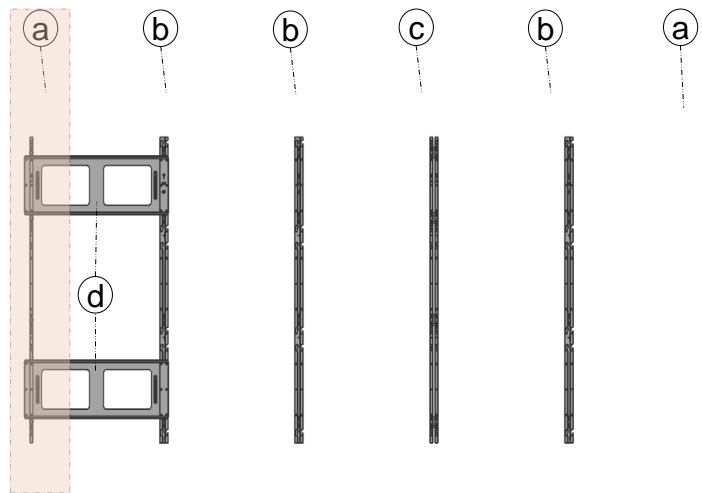

Fig.3 Positions of components to attach
② On the left end, place the ① Bracket Side and fasten the screws to install the Bracket (Fig.3).